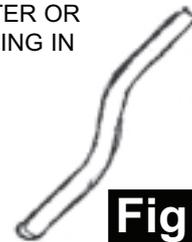

Fig 5d
- 47. Also known as a rubbing in iron, these can either be brought ready made or you can use an old bucket handle from a metal bucket or a length of rubber hose. They make a smooth inverted joint, *fig 5d*.